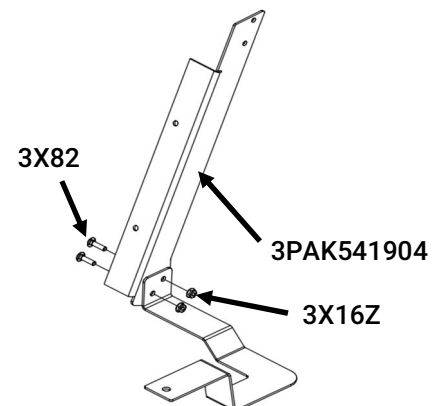

Figure 4
- Install (2) carriage bolts [3X82] with whiz nuts [3X16Z] through center support bracket [3PAK541904]. (Fig. 4)